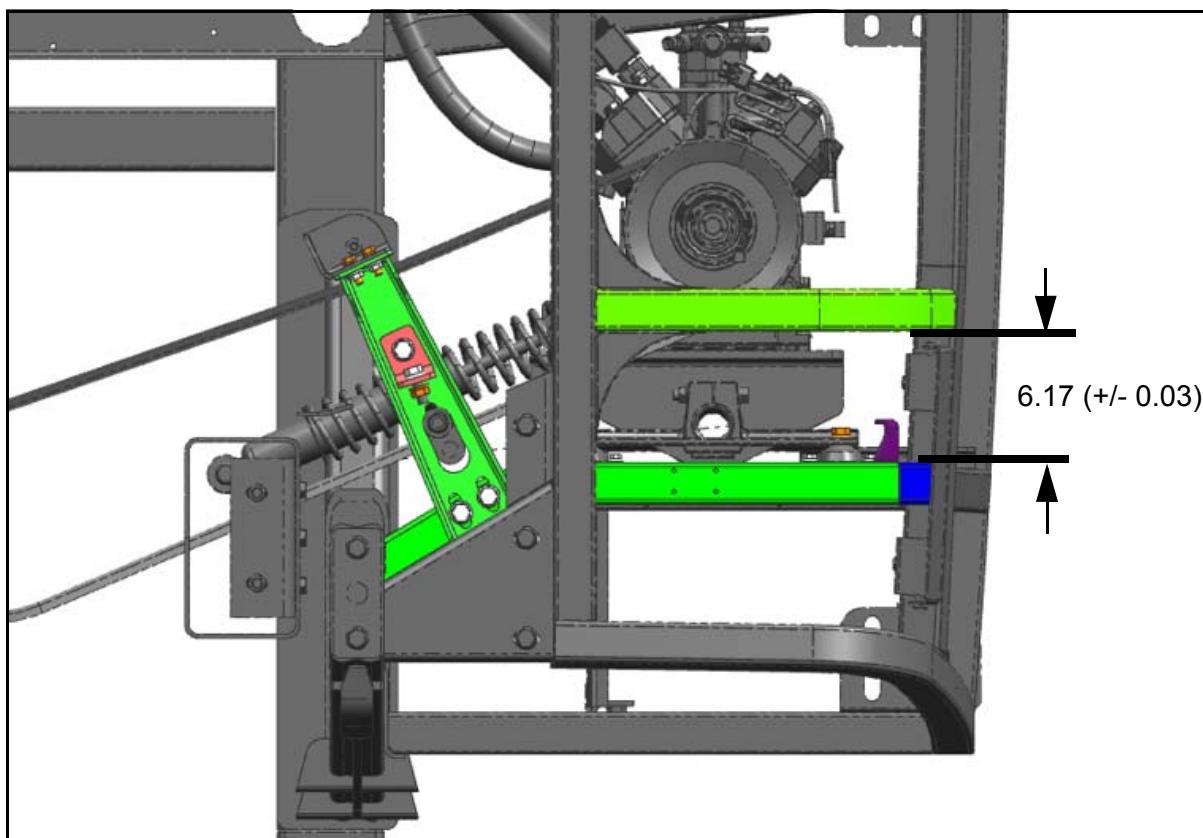

Figure 30. New tube assembly orientation.
68. Carefully cut and grind away existing cracked support tube shown in Figures 30 and 31.
69. Orient and weld the new tube assembly, p/n 03-59-4739, to the existing structure and engine rail as shown in Figures 30 and 31.